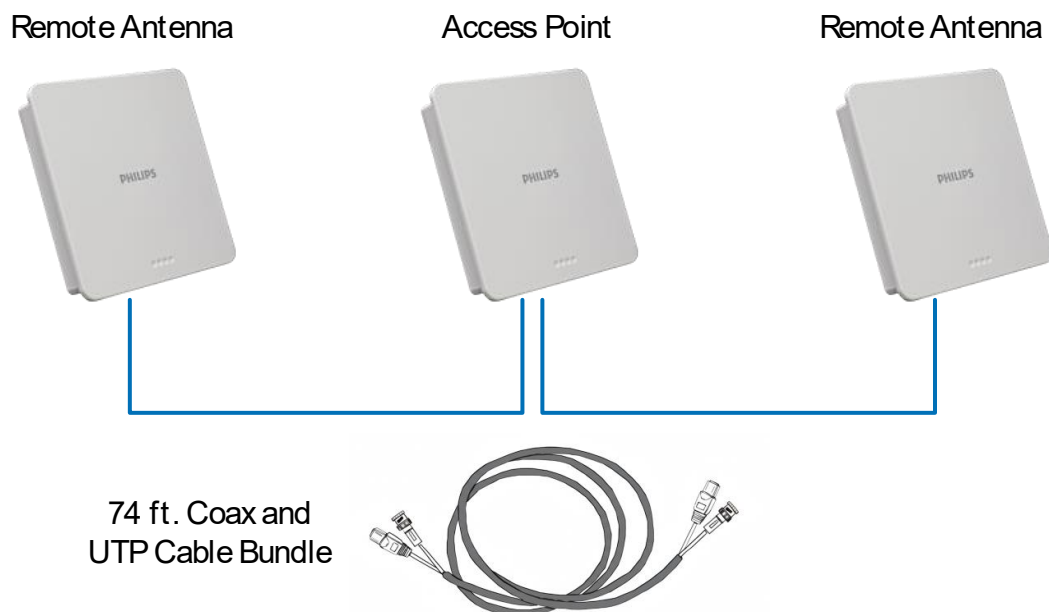

Figure 3: 1.4-GHz Smart-hopping Infrastructure Core Access Point
The Smart-hopping 2.0 Access Point (AP), Model ITS867216A (P/N 867216), (Figure 3) provides an air-link to transmit and receive data between wireless clients and the Philips Information Center via the Smart-hopping Network.